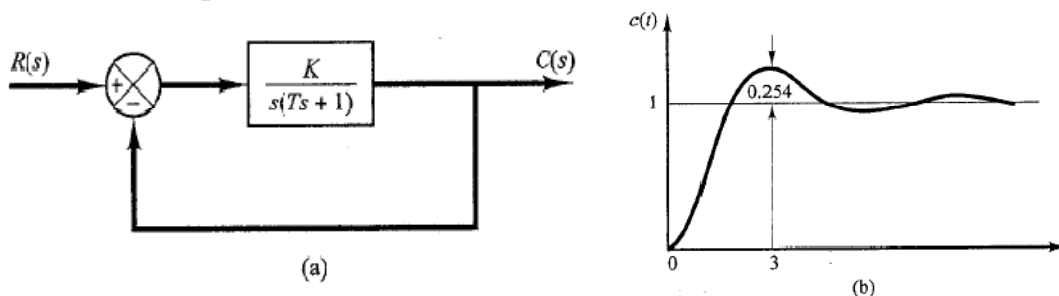

Fig. 5
- 8) When the control system shown in Fig. 5 (a) is subjected to a unit-step input, the system output responds as shown in Fig. 5 (b). Determine the values of K and T from the response curve.